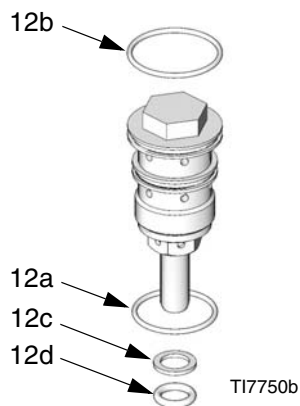

FIG. 13. Original Poppet Detail
4. See FIG. 13. Unscrew the poppet assemblies (12). The small o-rings (12c, 12d) may not come out with the poppet assemblies. Be sure to remove them from the top cap (1) or bottom cover (3).
6. Lubricate the poppet assemblies (12) and reinstall in the top cap (1) and bottom cover (3). Torque to 30-36 ft-lb (40.6-48.8 N•m).